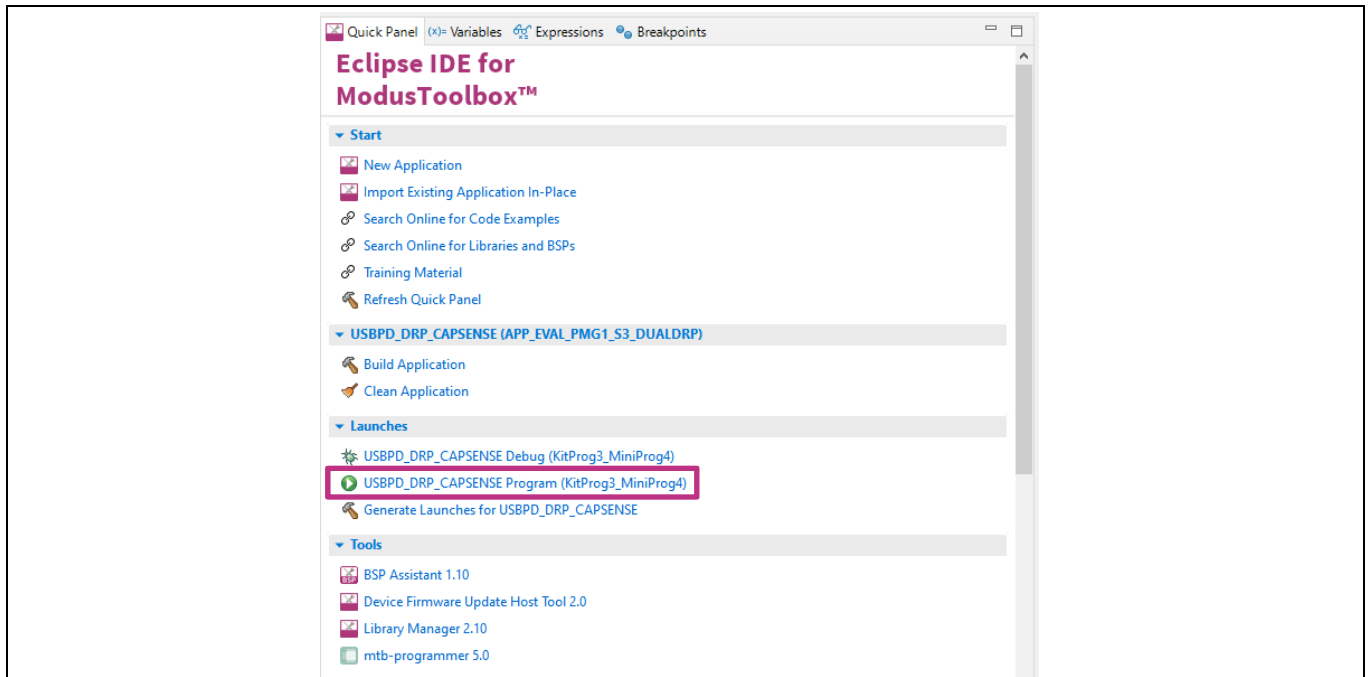

Figure 23 Quick Panel and programming options
6. On the **Quick Panel**, click **<Application name> Program (KitProg3_MiniProg4)** from the **Launches** section as shown in Figure 23.